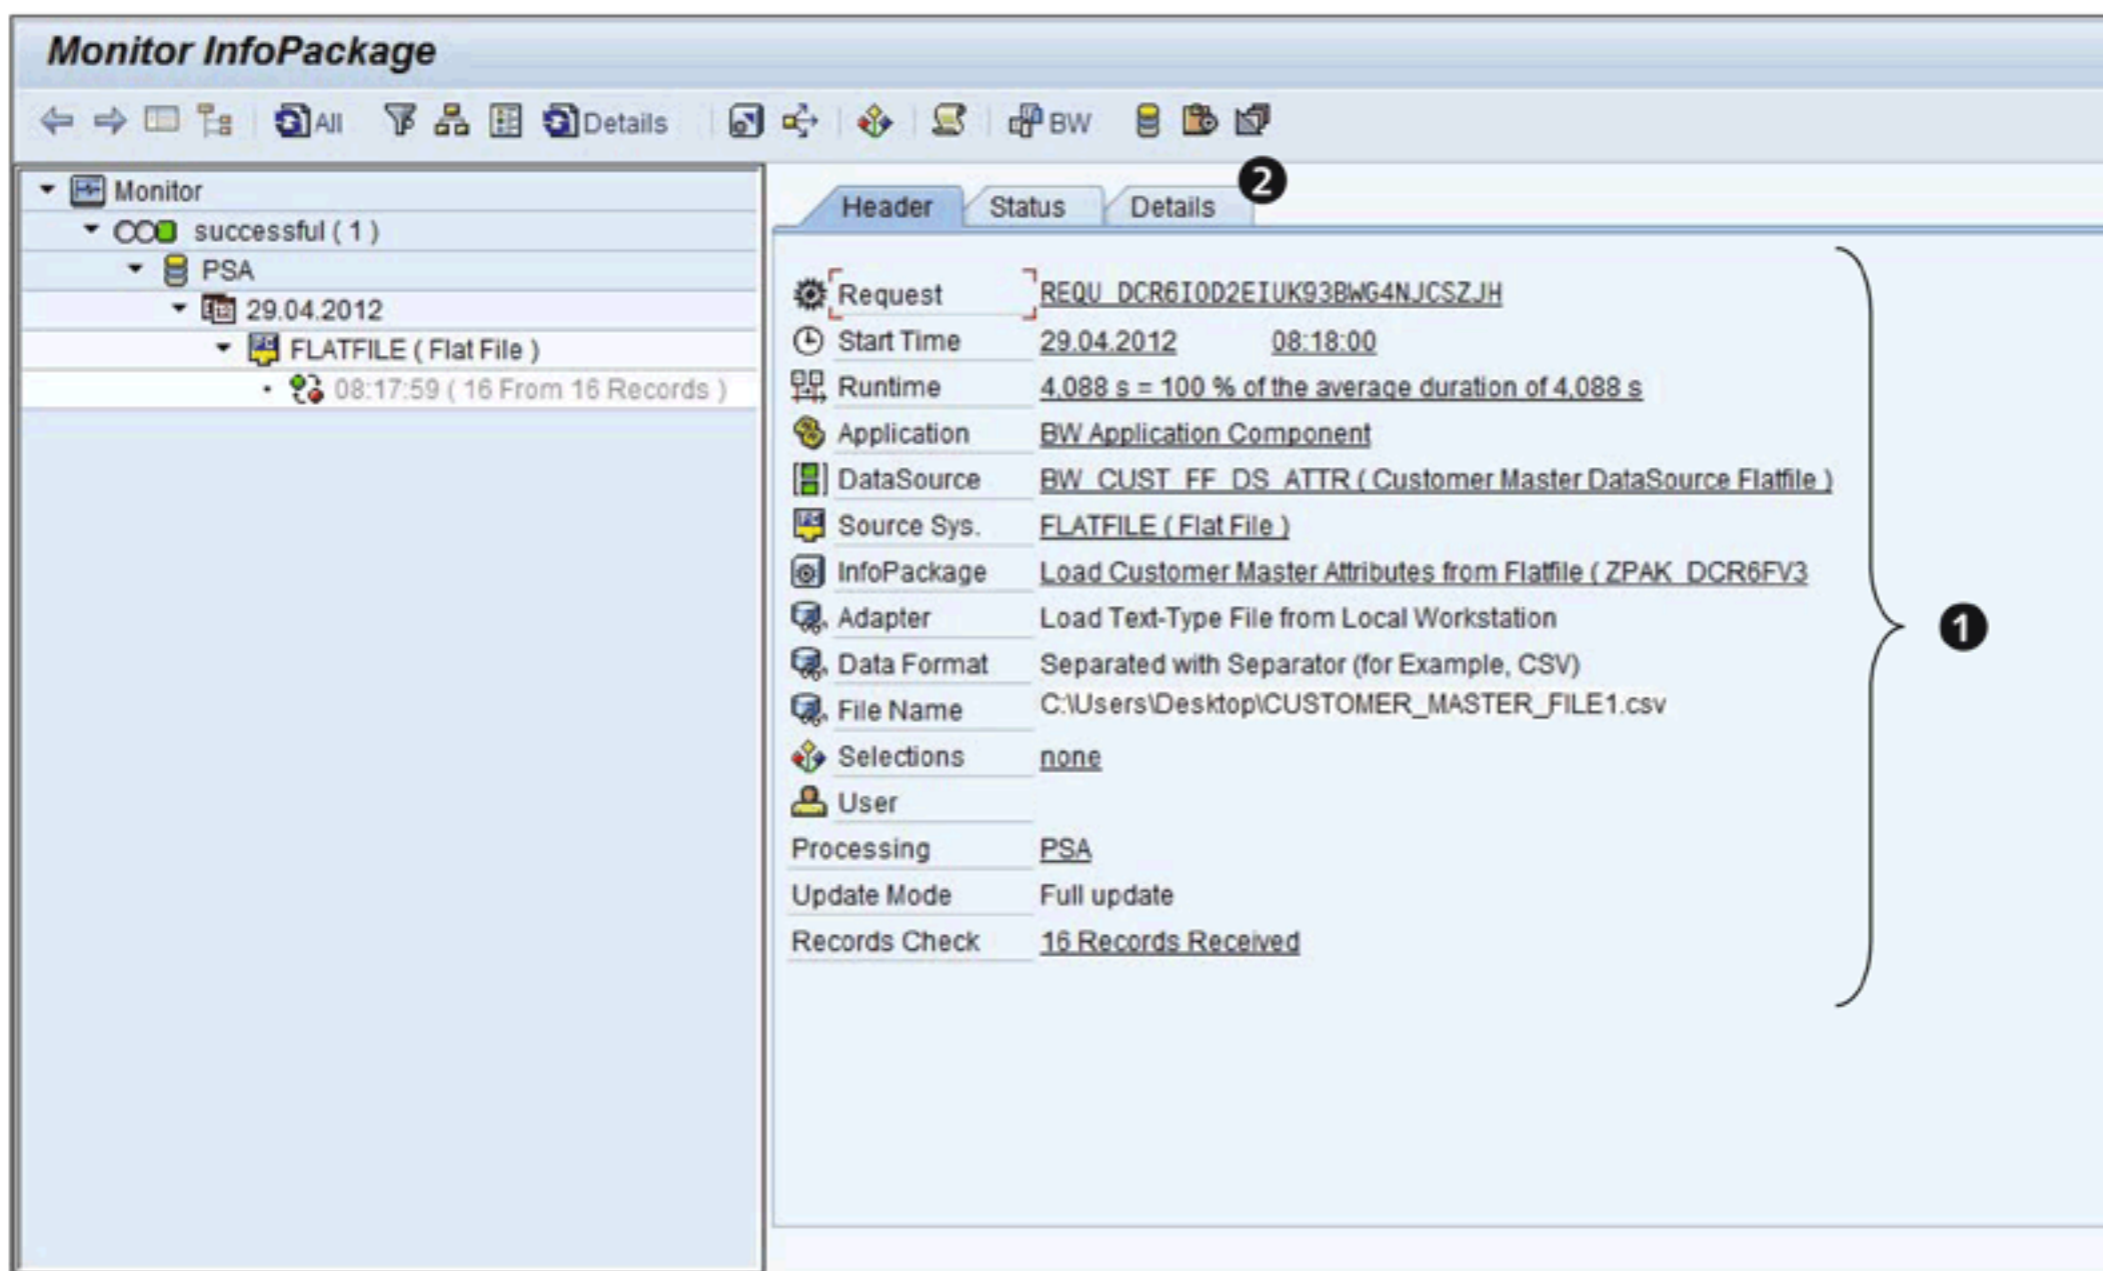
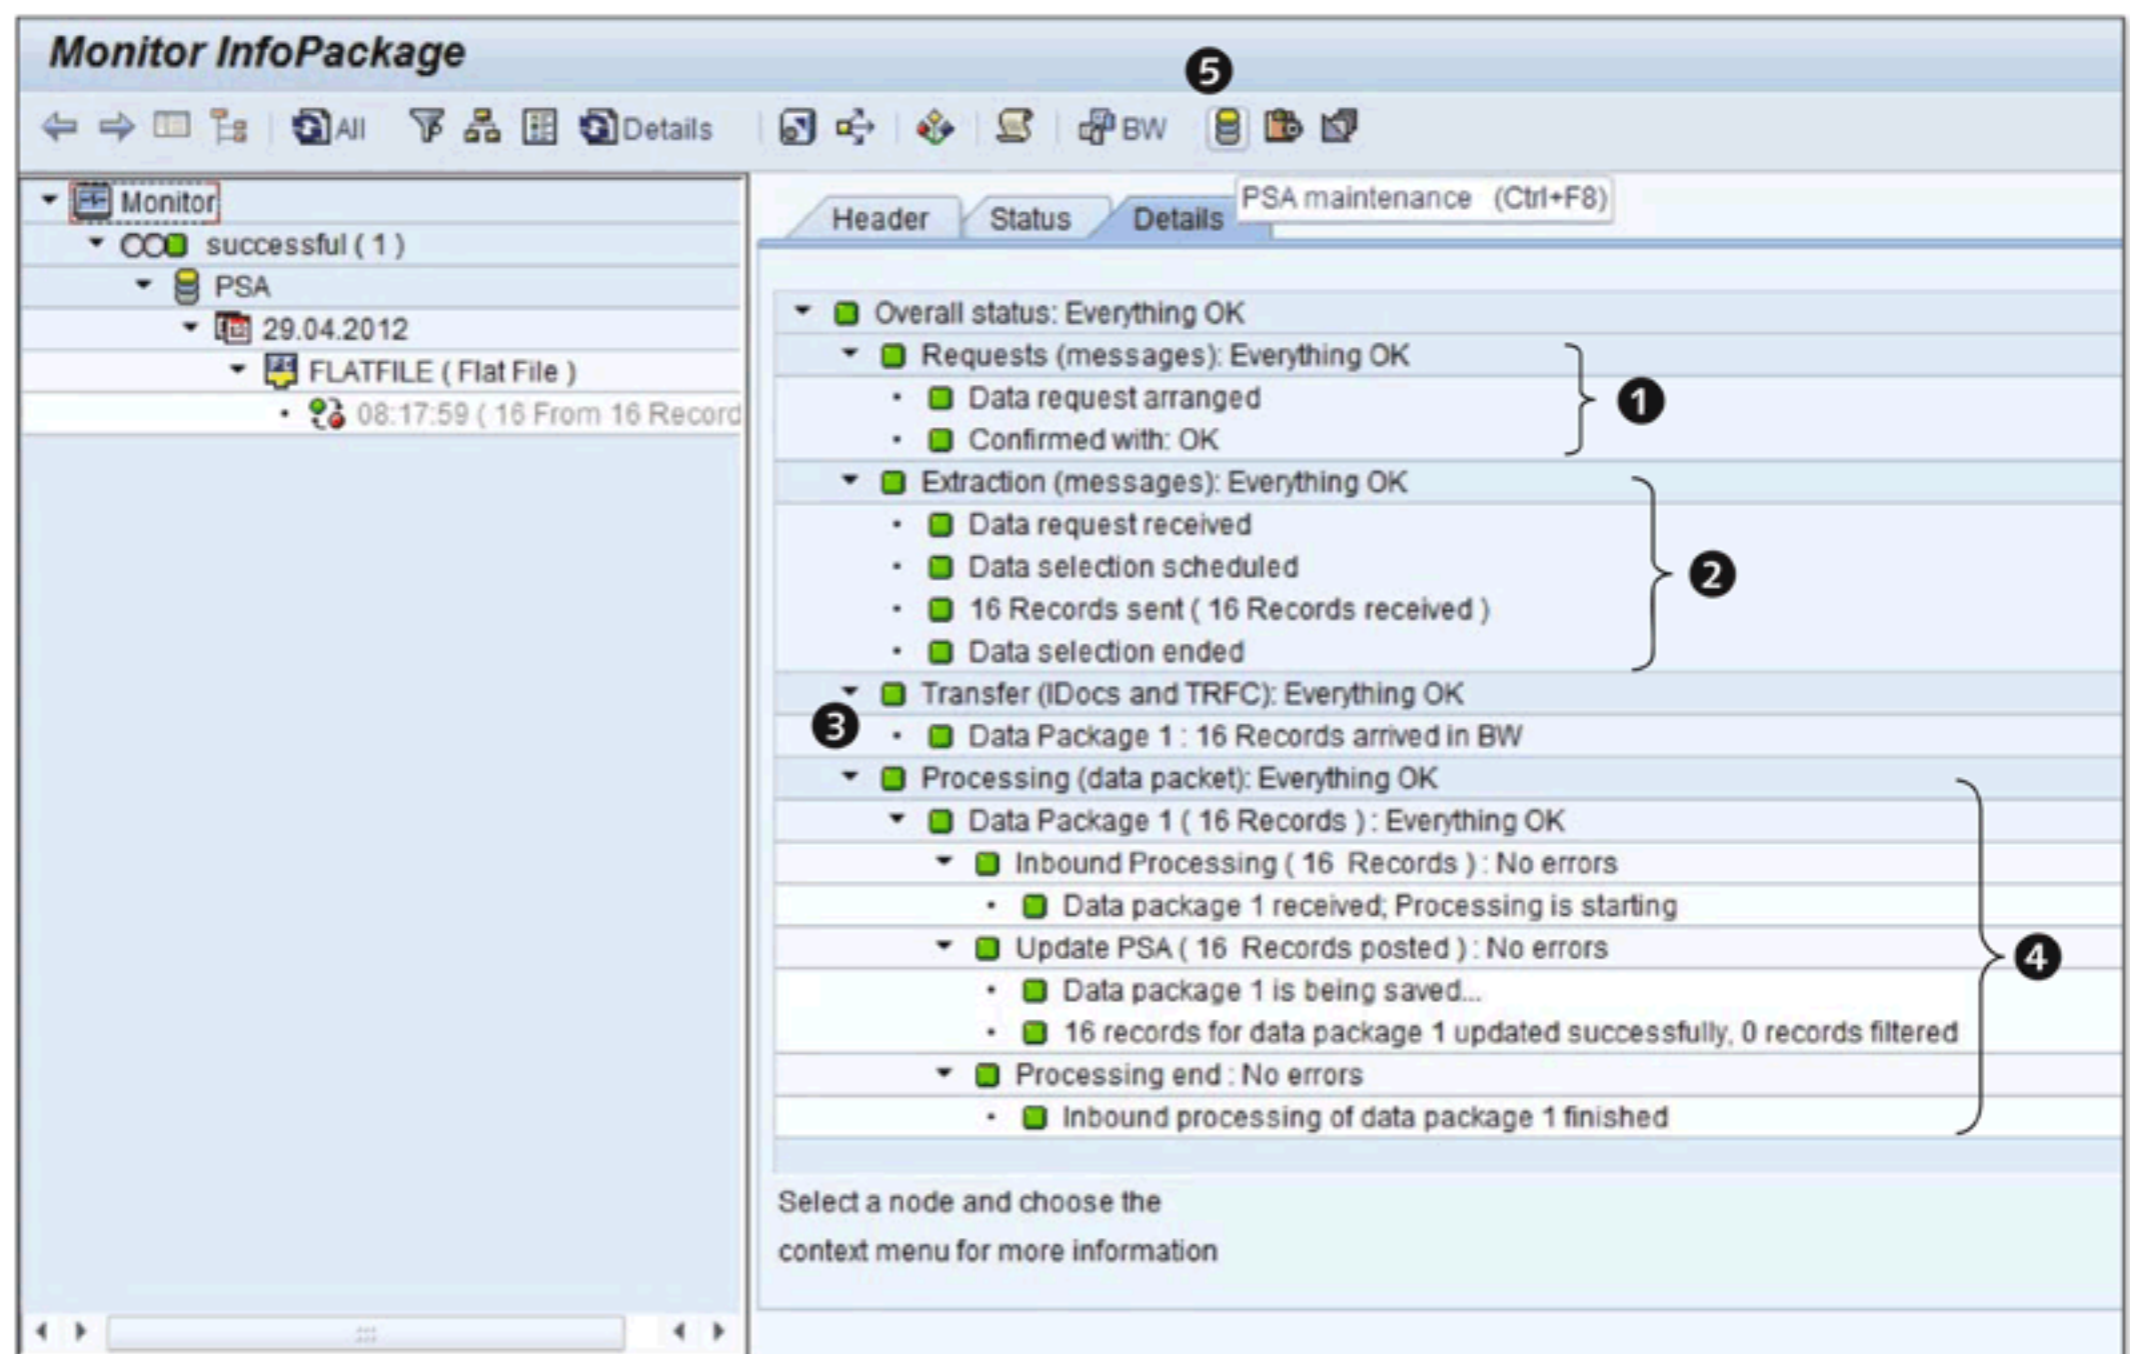
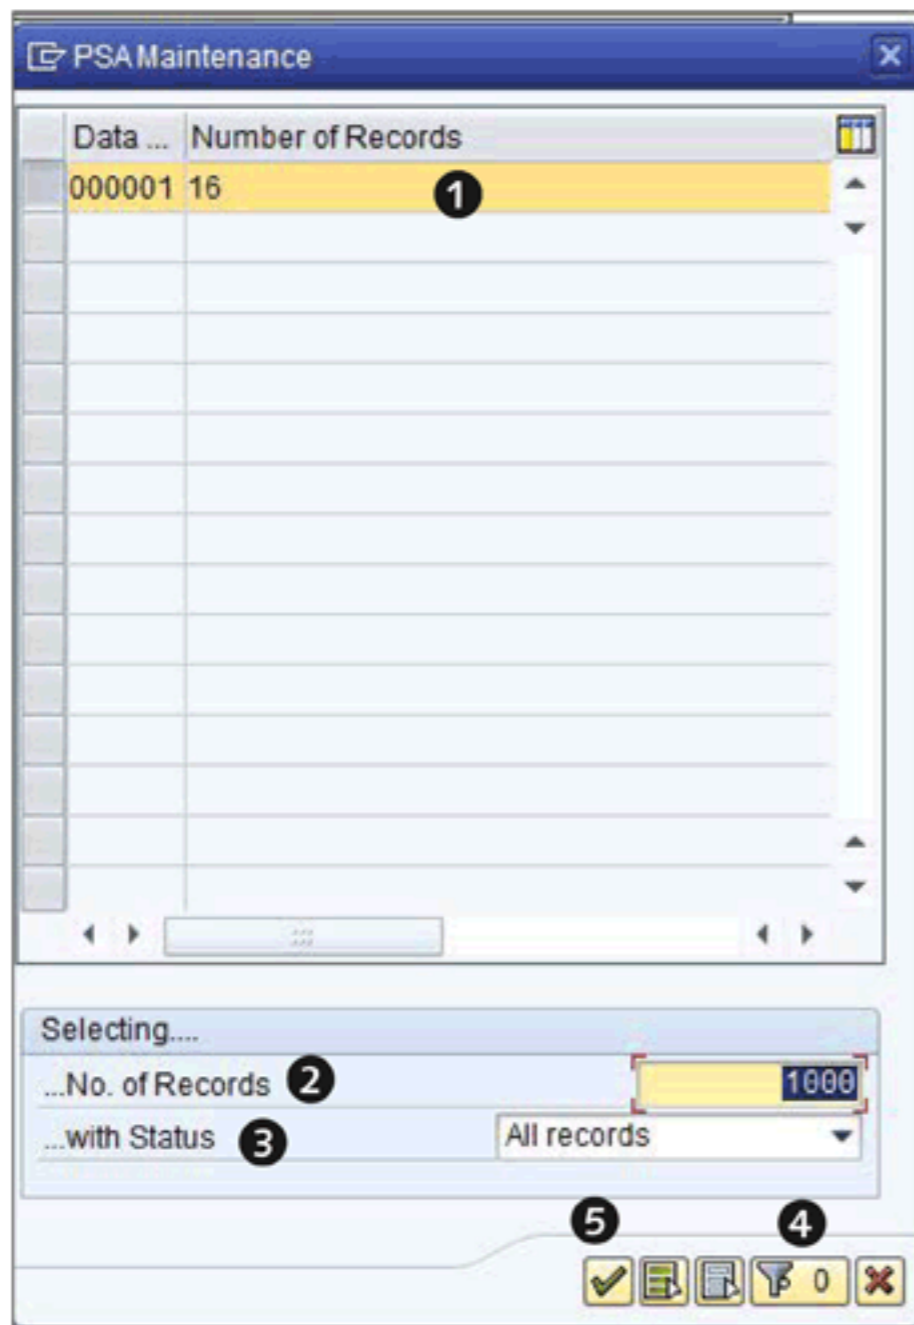
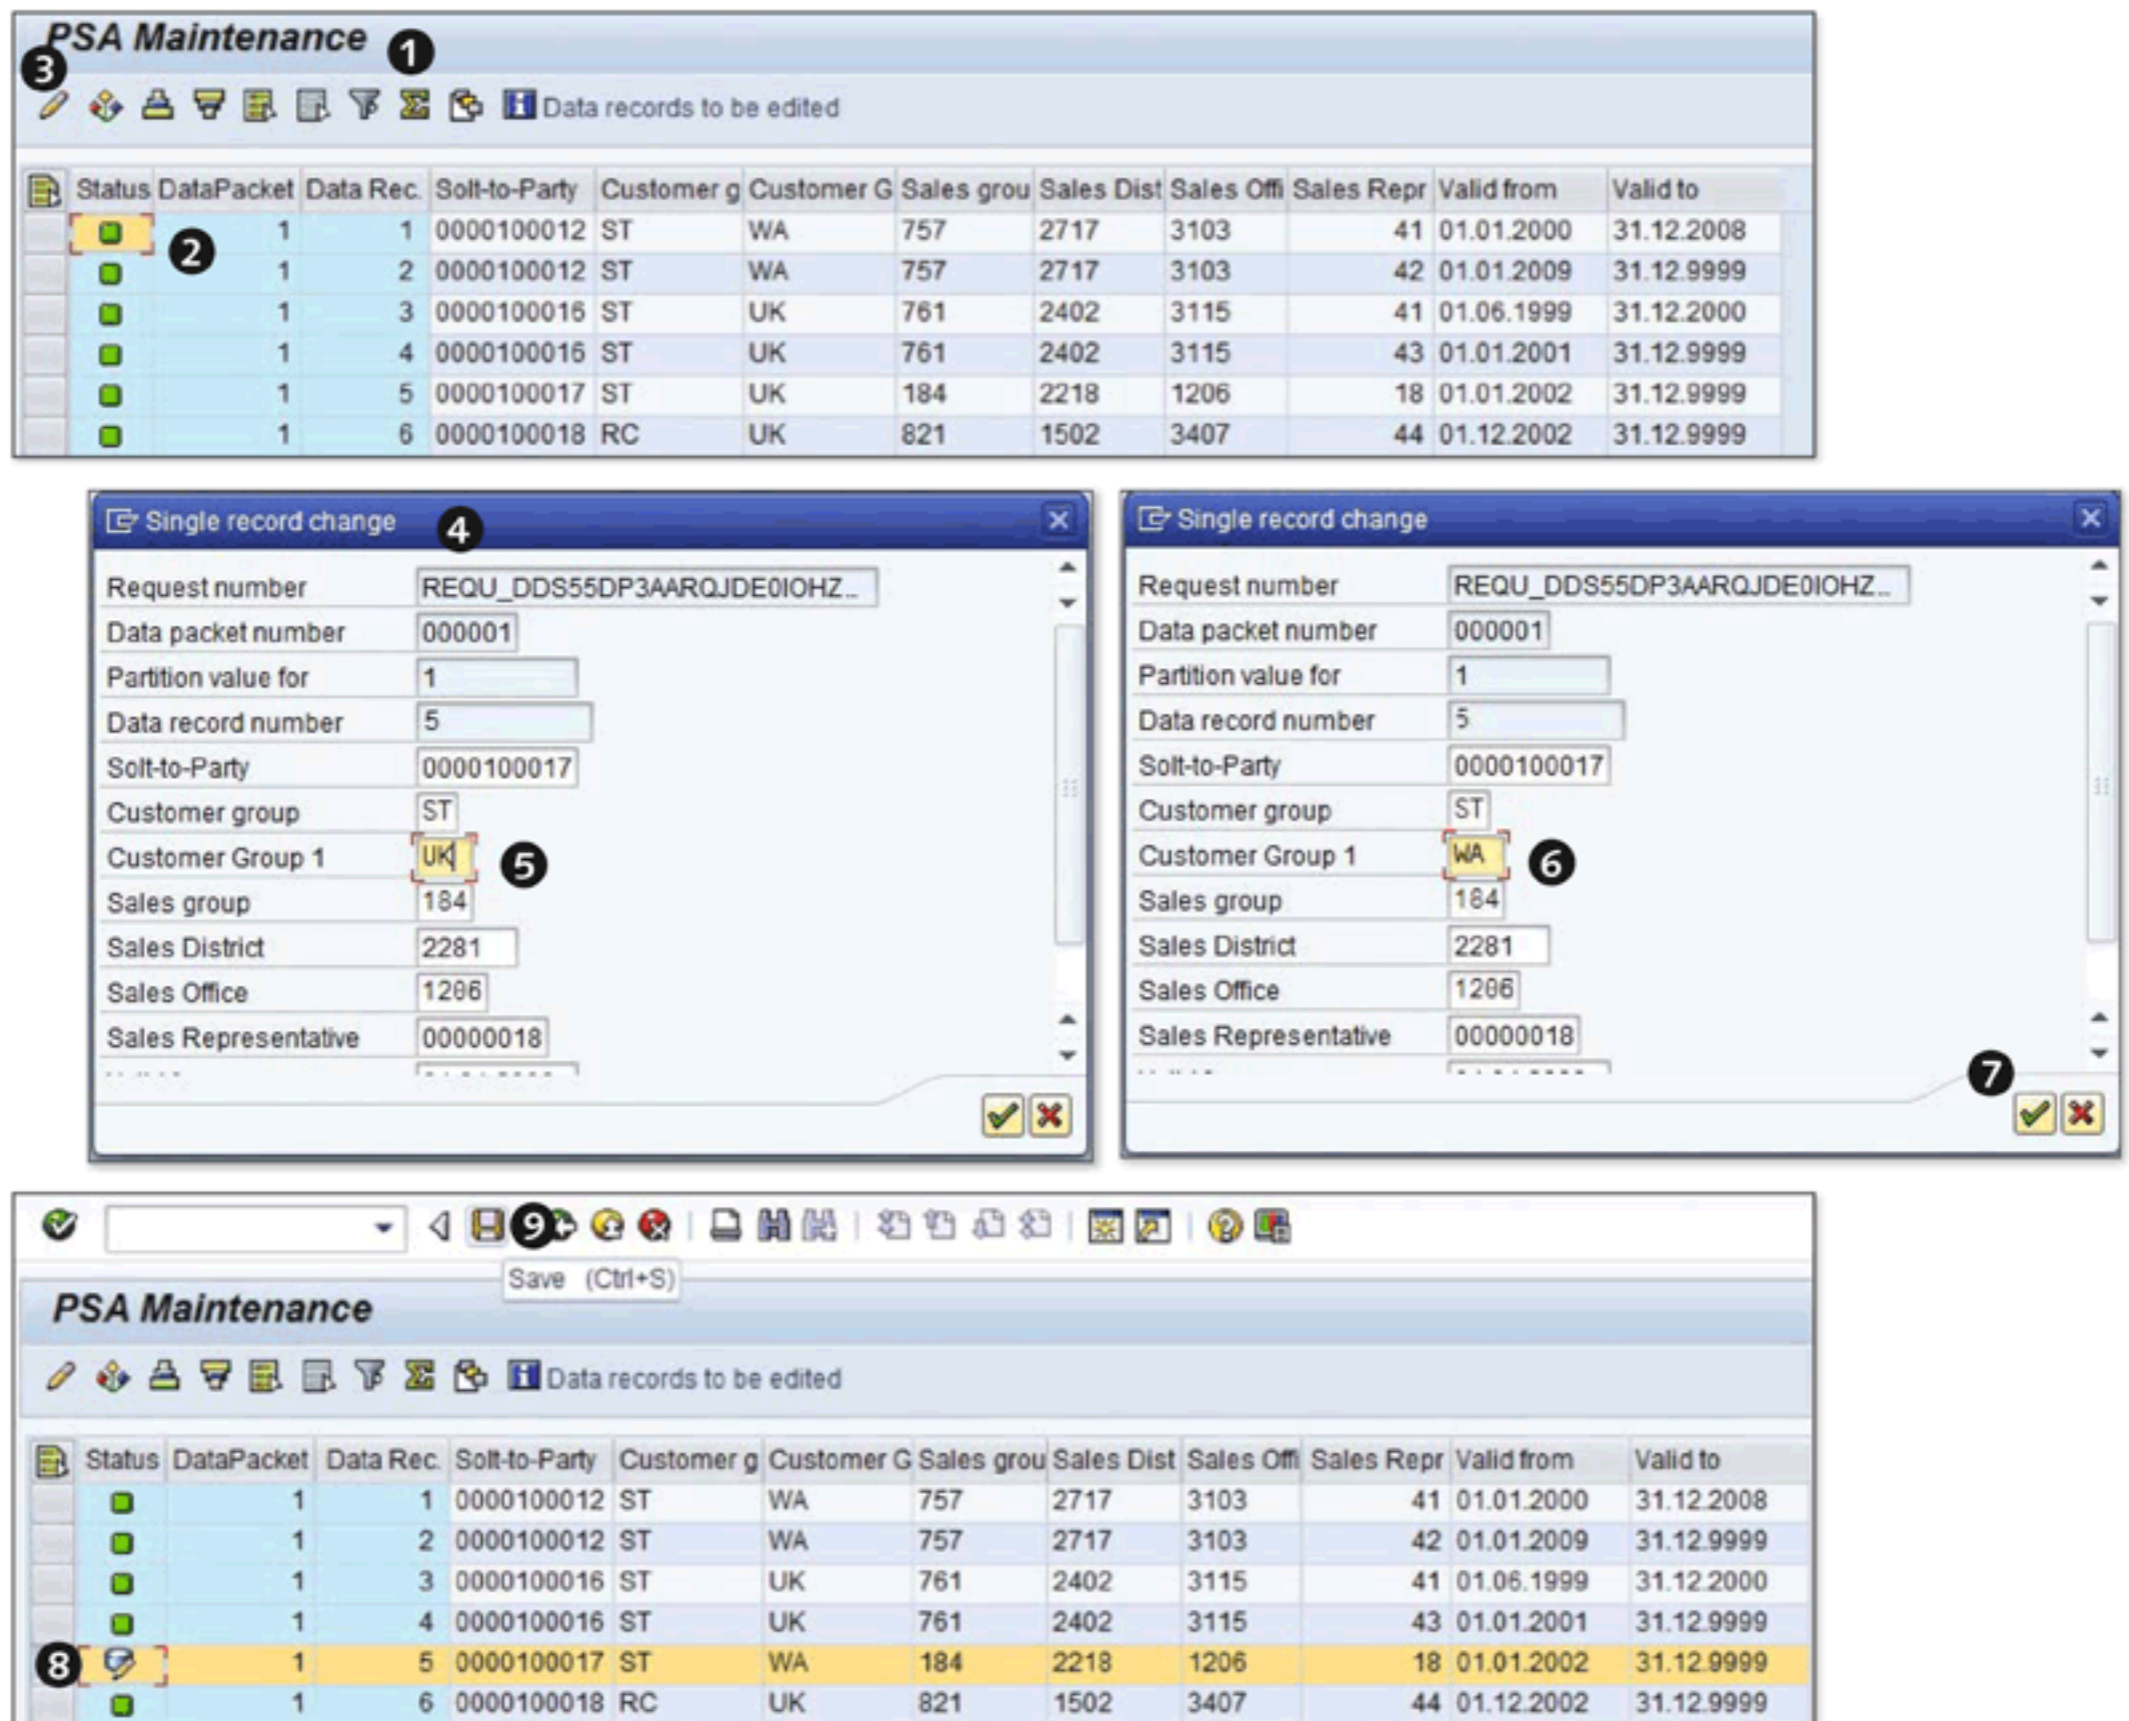

Figure 7.39 Monitor: Header Tab
Figure 7.40 Monitor: Details Tab
Figure 7.41 PSA Maintenance
Figure 7.42 Editing Records in PSA Maintenance
Click on the HEADER tab to see the details of all of the objects involved in the extraction, as shown in Figure 7.39.
The DETAILS tab (2 of Figure 7.39) shows extraction details broken into various steps, as shown in Figure 7.40. When extraction is started by executing an InfoPackage, the request for extraction is sent to the source system. Messages during this phase (1 of Figure 7.40), extraction messages (2), the transfer of extracted records in the form of data packets (3), and the processing of each data packet (4) are all shown in Figure 7.40.
Another feature of the monitor is the ability to check the data stored in the PSA; to do this, click on the PSA MAINTENANCE icon shown in 5 of Figure 7.40. This results in the PSA MAINTENANCE screen shown in Figure 7.41.
The PSA MAINTENANCE screen displays all data packets with the number of records in each one. Our example has only 1 data packet with 16 records (1 of Figure 7.41), but, in practice, you'll probably have more than this. You can filter the records using the NO. OF RECORDS field (2) and the WITH STATUS field (3). You can also click on the FILTER icon (4) to select specific record numbers. After you've filtered your records appropriately, select them, and click on the CONTINUE icon (5) to view or edit them. The records are displayed as shown in 1 of Figure 7.42.
In our example, we want to edit data record 5 of data packet 1 (2 of Figure 7.42) to change the value of the CUSTOMER GROUP1 field. Select this record number, and click on the CHANGE icon (3). This displays the SINGLE RECORD CHANGE box (4). Select the value of the CUSTOMER GROUP1 field, and change it from UK to WA (5 and 6). Click on the CONTINUE icon (7); the changed value can be seen as shown in 8. The system also indicates that the record has been changed with the icon shown in 8 of Figure 7.42.